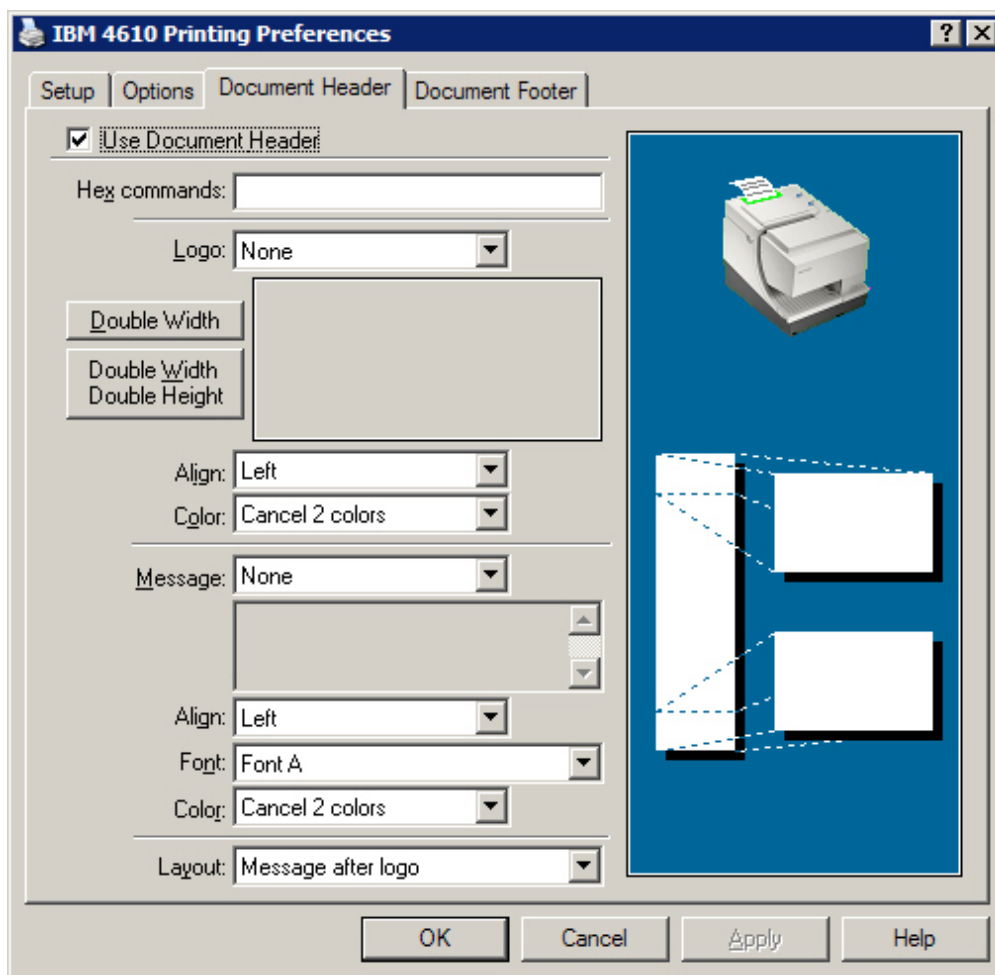

Figure 21. Document Header tab
4. Click the **Document Header** tab (see Figure 21).